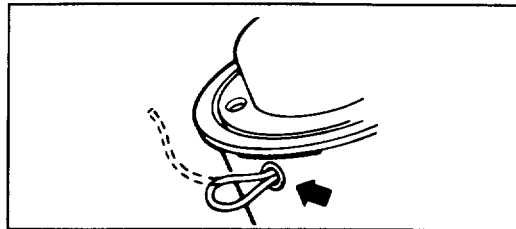

Figure 15
10. After each use, either retape or loop the line through the eyelet to prevent unraveling (Fig. 15).